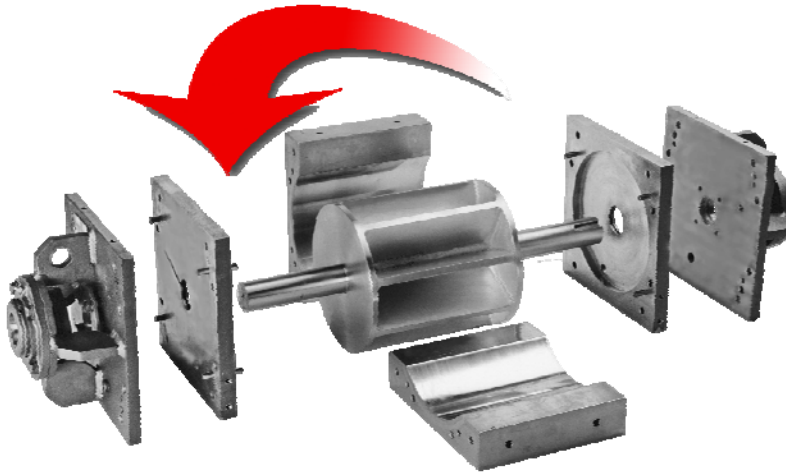
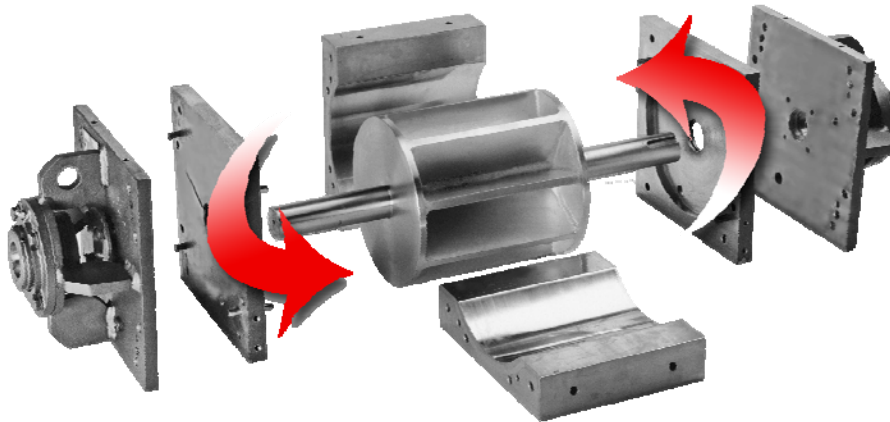

Figure 4
Figure 5
E. Swapping & Reversing Barrel Sides – As mentioned in the Introduction, the barrel sides in a PMV are identical to one another and therefore can be interchanged with one another (see figure 5 on page 16.) The barrel sides are also symmetrical so that a barrel side can be “rolled over” with the top becoming the bottom (see figure 4 on page 16.)